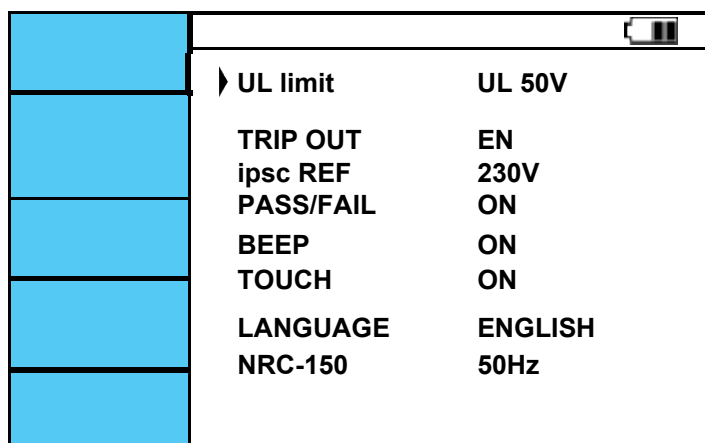

Figure 6.3.3 Information set screen.
- Move the cursor up and down on the Figure 6.3.3 screen to set the position and use the left and right buttons to set.